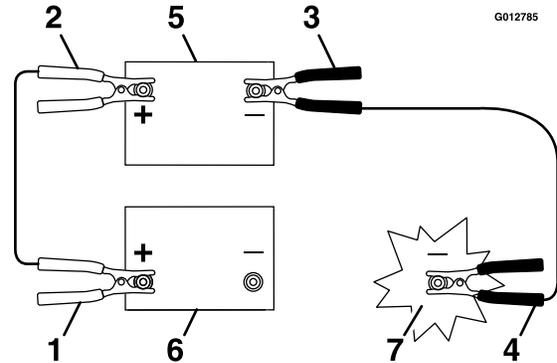

Figure 46
2. Connect the positive cable to the positive (+) terminal of the discharged battery (Figure 46). The positive post may be identified by a + sign on top of the battery cover.